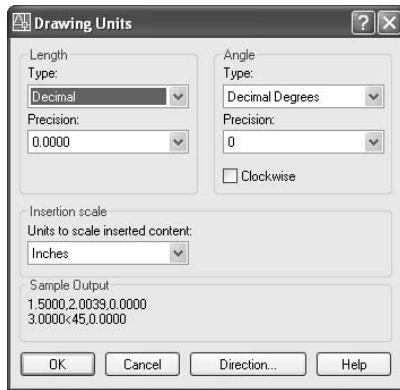

FIGURE 3.1 : The Drawing Units dialog box
2. Choose Format > Units to open the Drawing Units dialog box (see Figure 3.1). In the Length area, Decimal is currently selected. Similarly, in the Angle area, Decimal Degrees is the default.